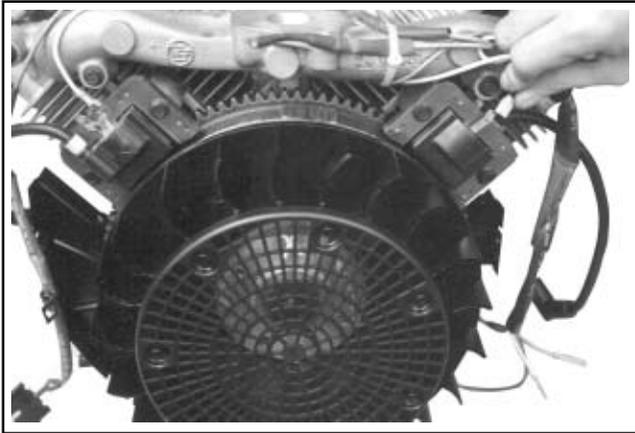

Figure 11-54. Connecting Kill Leads on Standard Ignition Modules.
On engines are not equipped with SMART-SPARK™, the modules are installed with the spark plug lead wire from module always away from the cylinder. On #1 cylinder, the single kill tab should be towards you. See Figure 11-54. On #2 cylinder, the single kill tab should be away from you (in).
2. Connect the kill lead to the tab terminal on standard ignition modules. See Figure 11-54.